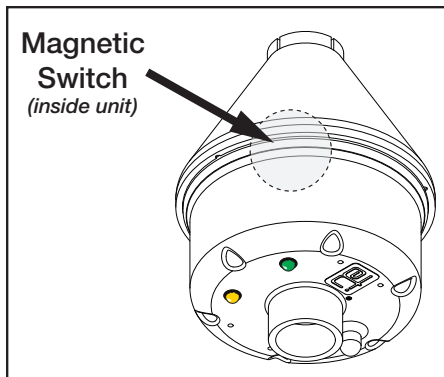
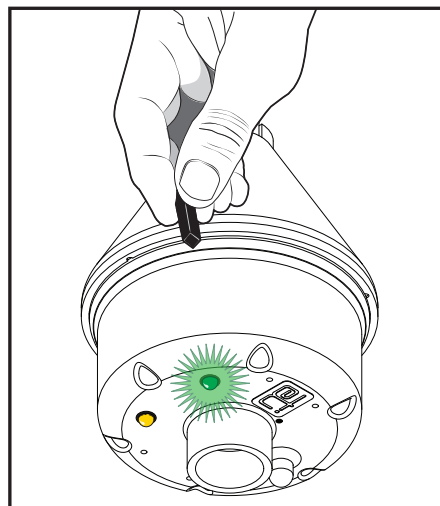

Figure 4. Magnetic Reed Switch (internal)
Figure 6. Positioning (left) and swiping (right) external Magnet over internal Magnetic Switch
The LCD-8 uses an internal magnetic reed switch (Figure 4), where the user swipes a magnet (Figure 5) externally across this switch (Figure 6) to start a hold-on cycle or to terminate a running hold-on cycle. The magnetic switch determines whether the user's action "swipes" or "holds" the magnet during LCD-8 configuration.
the four (4) second gap helps the user identify Field 1, the starting point of the sequence, even after the sequences of pulses have repeated several times. The LCD-8's default configuration is represented in Figure 6, above.